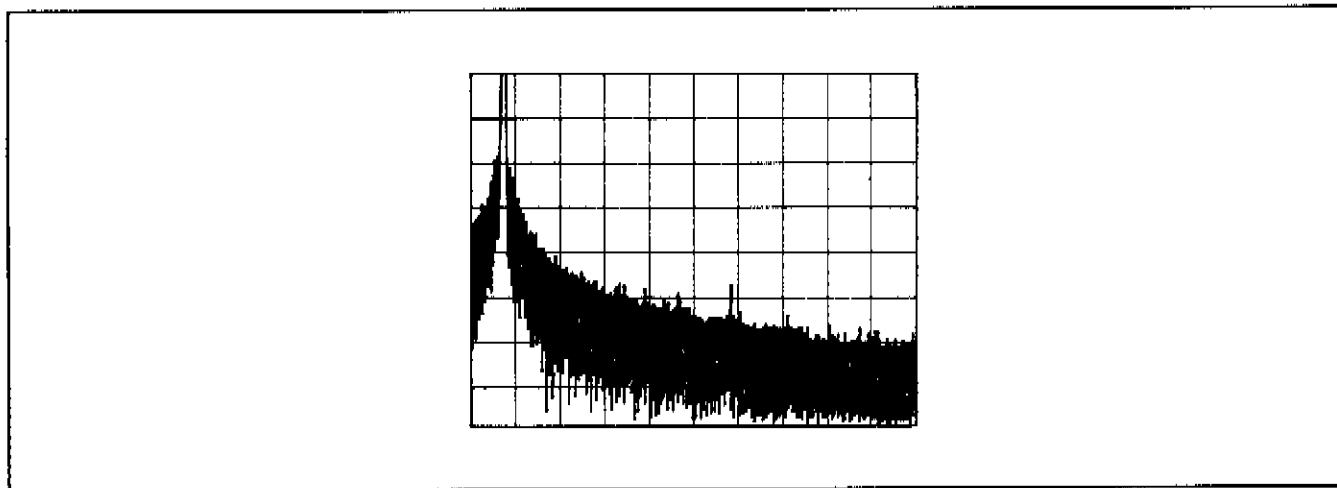

Figure 4-12. *Spurious Test Spectrum Analyzer Display (321.8 MHz, 50 kHz/Division, 1 kHz Bandwidth)*
4. Set the Generator's frequency to 320.0 MHz and amplitude to 0.0 dBm. Set the spectrum analyzer's input attenuator to the minimum attenuation allowable with a 0 dBm input signal. Adjust the tuning so the signal is centered on the second vertical graticule line from the left of the screen. Use 50 kHz resolution and 1 kHz bandwidth settings. Set the reference level to -40 dBm. The display should be as shown in Figure 4-12.